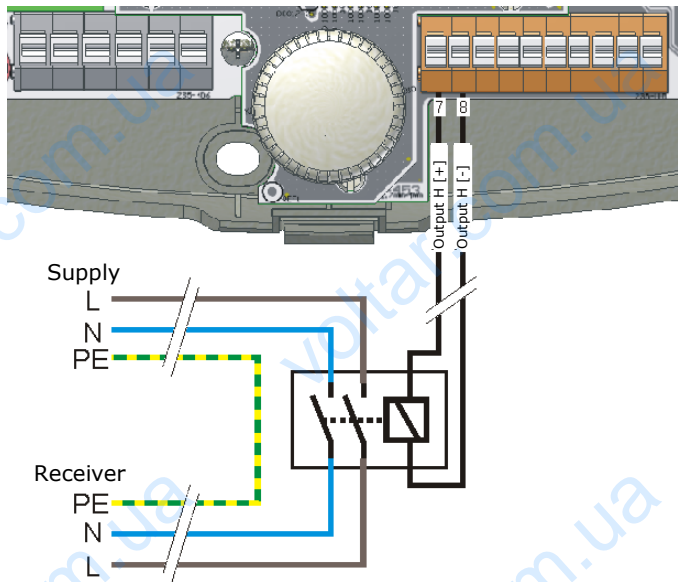

Fig. 17.10 Connection of relay to H output.
For a heater connection, use relay connected as shown in Fig. 17.10. Wire that connects the controller and transmitter must not have resistance bigger than 1Ω (see Table of wire lengths and resistances in the section on wire length compensation 20.2.1).
- 1. Unipolarly with return spring:** such valve connect to **H** output of the controller through a relay, like in Fig. 17.10